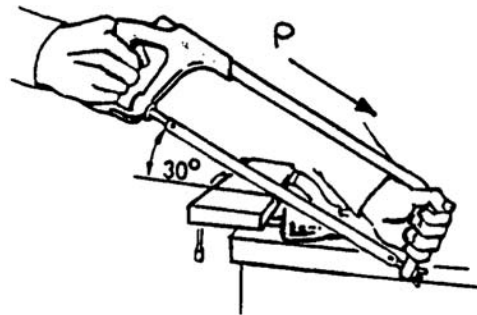

Fig.4.10: Cutting with the hacksaw.
1. Hold the hacksaw properly at an angle as shown in Fig.4.10.